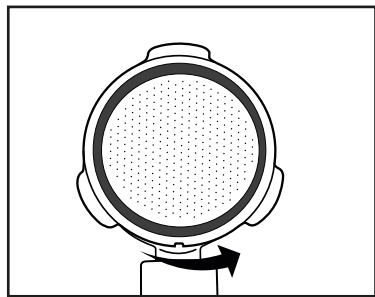

Fig. 2
- Then turn the large ❺ or small espresso sieve ❻ slightly to ensure it cannot fall out (see Figure 2).